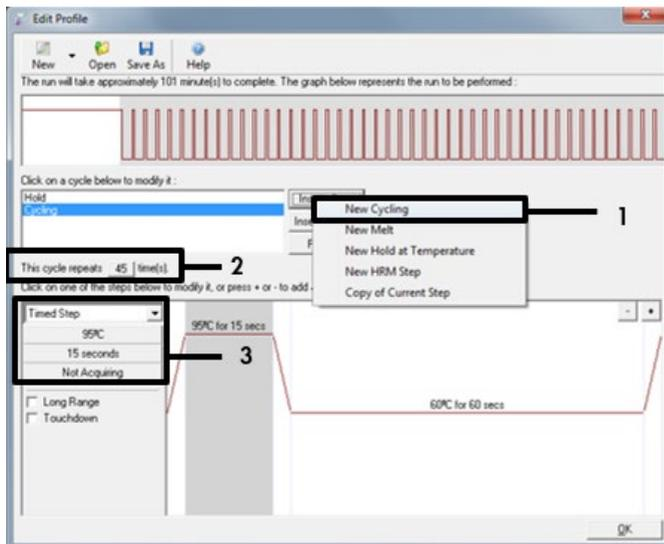

Figure 14. Edit profile. 1: “New cycling”. 2: Cycle repeats 45 times. 3: First step timing.
20. In the “This cycle repeats” field, set the value to **45 times**. Remove the automatic third elongation step that was added as default. Then, select the first step and set the value to **95°C for 15 seconds** (Figure 14).